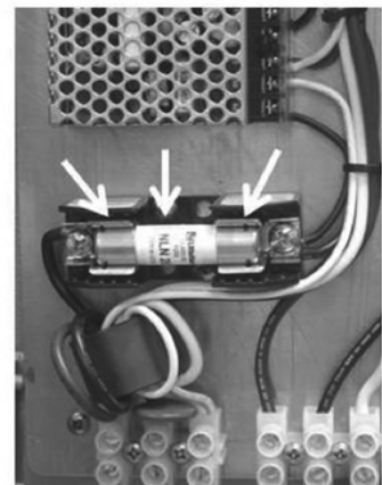

Figure 14 – Power Fuse
7. Remove and replace fuse with Littlefuse P/N 0NLN020.T. (See Figure 14).